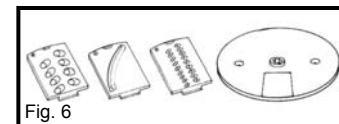

Fig. 6
1. Select the blade that you wish to use. (Fig. 6)